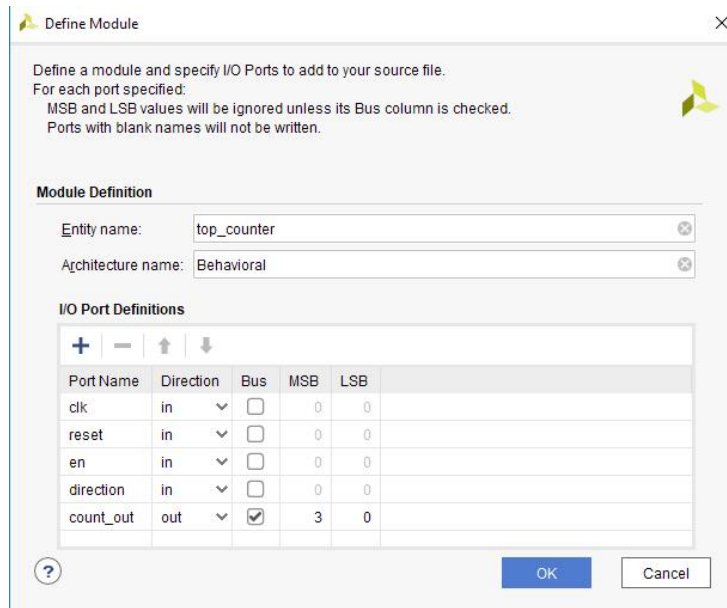

Figure 42
10. Declare the **top_counter** design ports by filling in the port information as shown in Figure 42.